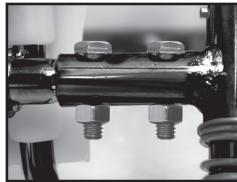

Figure 5
The pump handle can be mounted on either side of the pump shaft (A). To install the pump handle place the handle (C) over the shaft (A) aligning the pump handle holes and shaft holes. Slide the bolts (B) through the aligned holes as shown in figure 1 thru 4. Tighten nuts (D) to bolts. There are holes in the pump handle to allow for either right (fig.5) or left (fig.6) hand mounting.